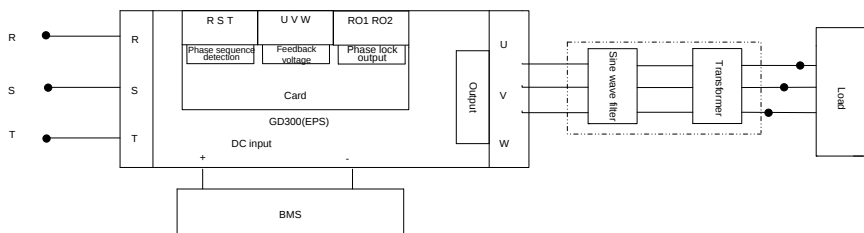

Figure 4.5 Diagram of voltage open loop control
- Step 1 Connect the circuit of the VFD according to Figure 4.5.